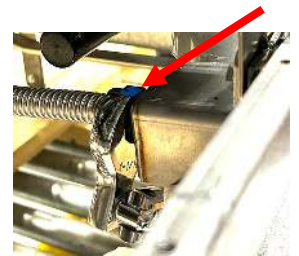

Figure 10
13. Attach the input flexible hose from the pre-filter to the female pick up receptacle (see Figure 10).